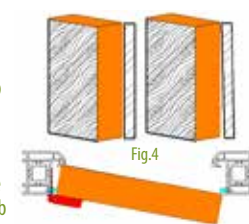

Fig.4
- Step 4** Fix the hinge jamb to the wall. Use a large spirit level to ensure that the jamb is square and plumb. Please note that the lock side must be adjusted to meet the door slab as each slab is bespoke and may vary by a small amount (see Fig 4).